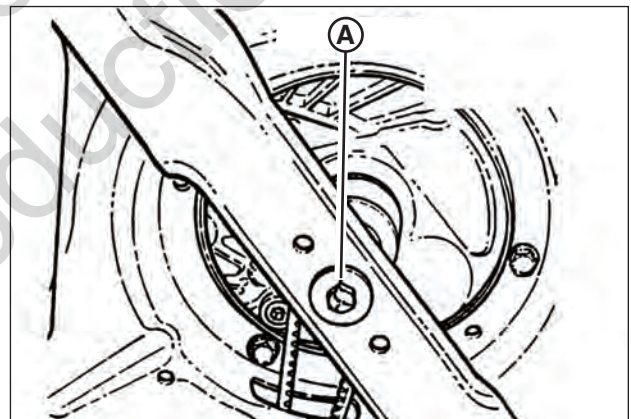

Figure 17: Tightening the blade cap screw
2. Tilt the mower up on its rear wheels for access to the blade cap screw (A, Figure 17). Do not tilt the mower with the spark plug or carburetor down.